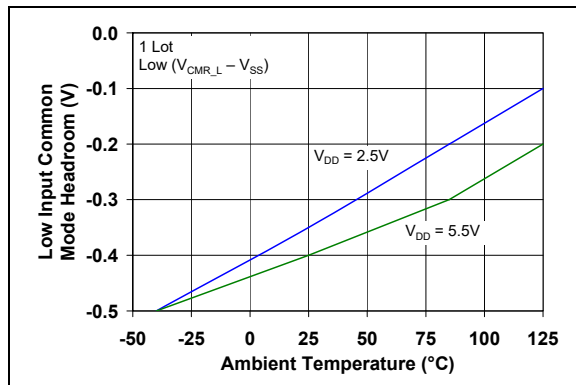

FIGURE 2-6: Low Input Common Mode Voltage Headroom vs. Ambient Temperature.
- Note 3:** See Figure 2-6 and Figure 2-7 for temperature effects.